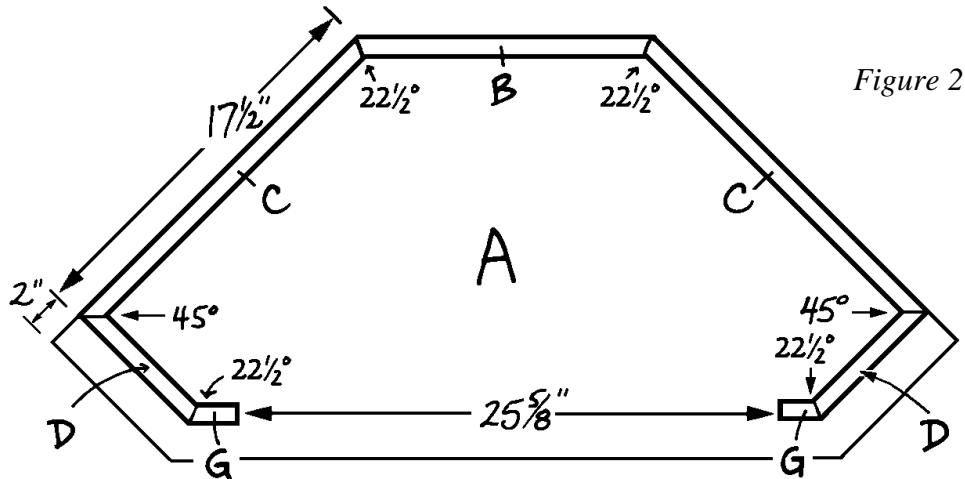
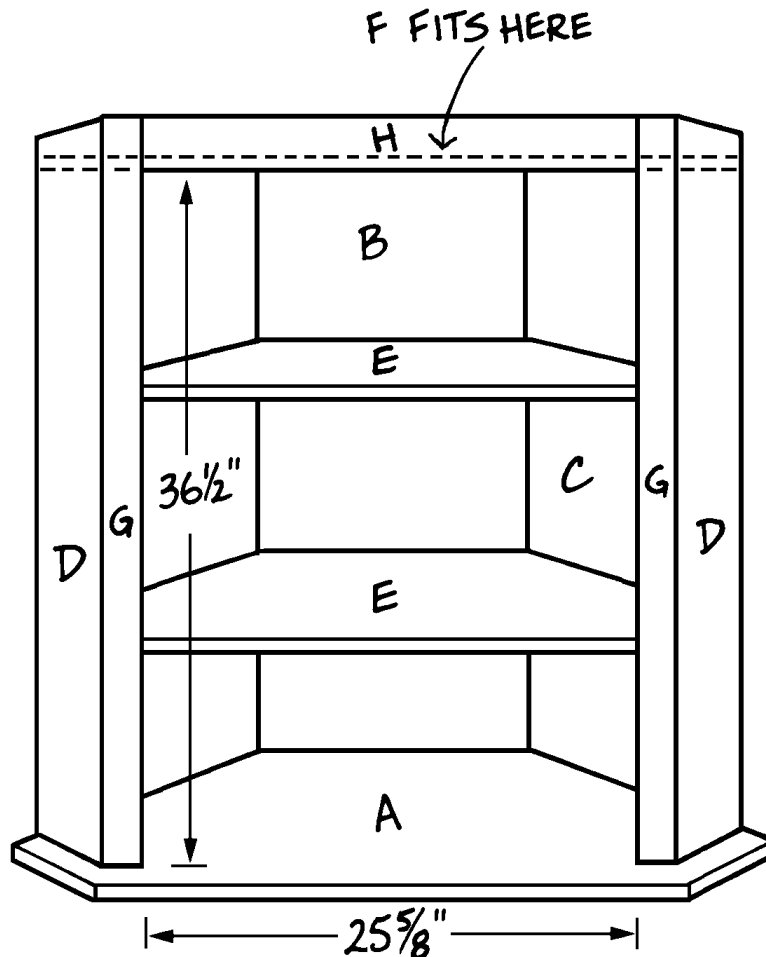

Figure 2
Figure 3
2. Cut one $13\frac{1}{2}" \times 40"$ upper back (B) from $\frac{3}{4}"$ -thick plywood.
3. Bevel both $40"$ -long edges of the upper back (B) at $22\frac{1}{2}"$ degrees. *Figure 2* shows the angle cuts for all of the beveled edges of the upper cabinet back and sides.
4. Cut two upper sides (C) from $\frac{3}{4}"$ -thick plywood, each measuring $17\frac{1}{2}"$ by $40"$.
5. Bevel one of the $40"$ -long edges of each upper side (C) at $22\frac{1}{2}$ degrees and bevel the opposite edge at 45 -degrees as shown in *Figure 2*.
6. Cut two upper fronts (D) from 1 x 6 pine, each 40" long.
7. Bevel one of the 40"-long edges of each of the upper fronts (D) at 22-1/2 degrees. Bevel the opposite edge at 45 degrees.
8. The assembly of the upper cabinet is shown in *Figures 2* and *3*. You would probably be wise to enlist the assistance of a willing helper (or two) to accomplish this task. Study both diagrams to familiarize yourself with how the pieces go together. Assembly won't be the best of times if you have to say, "hand me that book again—how does it fit together?"
As shown in *Figures 2* and *3*, the upper back (B), upper sides (C) and upper fronts (D) stand on end on top of the upper floor (A). The upper back (B) is set flush with the 13-1/2" edge of the upper floor (A), with its narrower face on the inside of the cabinet. The upper sides (C) are flush with the 19-1/2" edges of the upper floor (A), and their 22-1/2-degree beveled edges fit against the matching beveled edges of the upper back (B). Notice, however, that the 178-1/2"-long end of each upper side (C) is 2" shorter than the corresponding 19-1/2" edge of the upper floor (A). The excess width of the upper floor (A) creates a small "shelf" between the upper and lower cabinet assemblies (see *Figure 3*). This becomes an important design element in the finished project.
9. Fit the 22-1/2-degree beveled edge of one upper side (C) against the matching beveled edge of the upper back (B), positioning the side (C) so that its outer face is flush with the edge of the upper floor (A). Glue the parts together and insert 1-1/4" screws through the upper floor (A) and into the edge of the upper side (C), spacing the screws about 3" apart. Then insert 3d finishing nails through the bevel in the upper back (B) and into the beveled edge of the upper side (C), spacing the nails about 4" apart.
10. Repeat Step 9 to attach the remaining upper side (C) to the upper floor (A) and the upper back (B).
11. The next step is to add the two fronts (D), using *Figure 2* as a guide. Note that the 45-degree beveled edge of each front (D) fits against the matching bevel on the adjacent upper side (C). Glue the parts together and insert 1-1/4" screws through the upper floor (A) into the edges of the upper fronts (D), spacing the screws about 3' apart. Secure the bevels with 3d finishing nails spaced about 4" apart.
3. Bevel one 40"-long edge of each upper vertical facer (G) at 22-1/2 degrees, as shown in *Figure 2*.
4. To avoid later problems with the doors, perform this next step without using any glue. Using *Figures 2* and *3* as guides, attach one upper vertical facer (G) to the left upper front (D), the two upper shelves (E), and the upper top (F). Note that the 22-1/2-degree bevels on the upper vertical facer (G) and the upper front (D) face each other. Secure the meeting beveled edges of the upper front (D) and the upper vertical facer (G) by driving two 3d finishing nails just far enough in to hold the piece in place.
5. Repeat Step 4 to attach the remaining upper vertical facer (G) to the right-hand side of the cabinet assembly, again omitting the glue.
6. Check the width of the opening between the two upper vertical facers (G) along the exposed edge of the top (F). Also measure the width of the opening across the middle and bottom. The opening should measure exactly 25-5/8", or the doors will not fit properly. To adjust the opening, remove the two upper vertical facers (G) and alter them as necessary. Then glue the adjusted facers in place and insert 1-1/4" screws through the upper floor (A) and into the bottom edges of the upper vertical facers (G). Secure the meeting beveled edges of the upper front (D) and the upper vertical facer (G) with 3d finishing nails spaced about 6" apart. Also drive nails through the facers (G) and into the edges of the shelves (E) and the upper top (F).
7. Cut one 25-5/8"-long upper horizontal facer (H) from 1 x 4 pine.
8. Fit the upper horizontal facer (H) between the two upper vertical facers (G) and position it so that its bottom edge is flush with the lower face of the upper top (F). Drive two 3d finishing nails through the upper horizontal facer (H) into the edge of the upper top (F), hammering them in only far enough to hold the piece in place.
9. Now measure the opening from top to bottom on the left and right sides and in the middle. It should measure exactly 36-1/2", as shown in *Figure 3*. If necessary, remove the upper horizontal facer (H) and alter it so that the opening conforms to these measurements.
10. Replace the upper horizontal facer (H), glue it in place, and secure with 3d finishing nails placed about 3" apart and driven into the edge of the upper top (F). Also toenail through the ends of the upper horizontal facer (H) into each of the upper vertical facers (G).